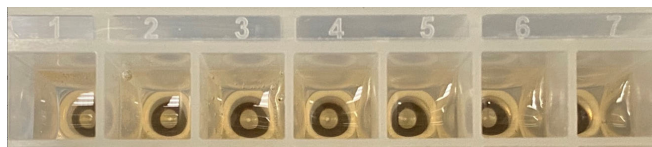

Figure 4 Beads form a ring at the bottom of each sample well.
9. Incubate for 10 minutes at room temperature. Beads form a ring at the bottom of each sample well. (Figure 4.)